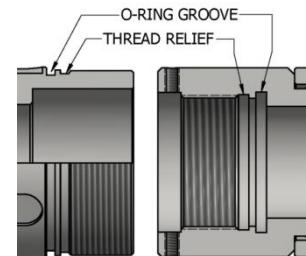

Fig. 2
**CAUTION4:** To ensure tool operates properly, install o-rings in o-ring grooves **NOT** thread reliefs (Fig. 2).
**NOTE4:** If assembling tool with replacement mated parts (items 1 & 2 and 5 & 6), match counterbore holes (aka drill flat bottom holes) to mating part according to SPEC014.